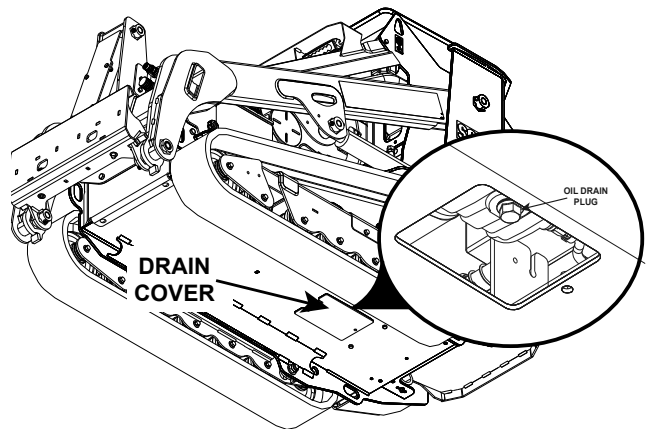

Figure 6-13. Engine Oil Drain Location
6. Remove drain cover underneath the track loader. See Figure 6-13.
7. Drain the oil beneath the platform. See Figure 6-13.